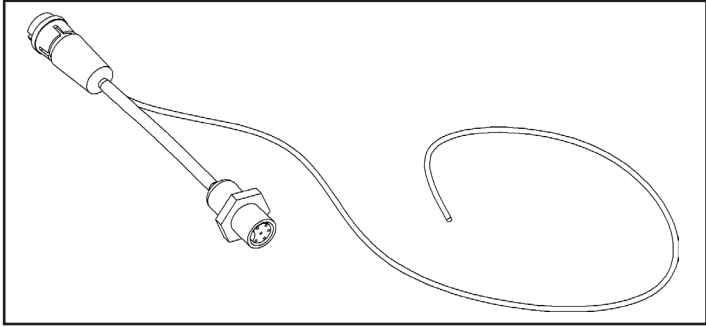
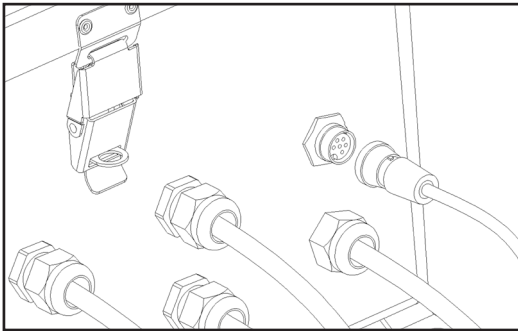
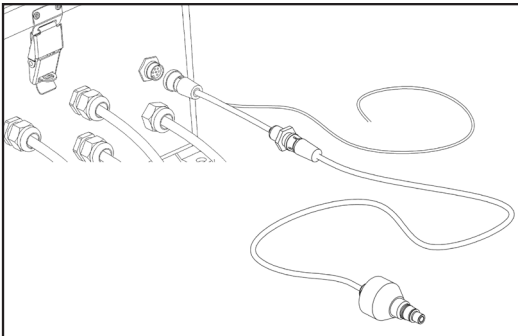

FIGURE 5A
FIGURE 5B
FIGURE 5C
6. *4-20mA output (optional)*: For those looking for the capability to transmit the UV intensity data to a remote location via a 4-20 mA signal, an optional "Y" cable is available from your dealer (Figure 5A). Please order PN 260134. This "Y" cable comes with 20 meters (65') of cable for the 4-20 mA signal. To install, first remove the existing sensor cable from the HF Enclosure (Figure 5B) and affix the new "Y" cable (Figure 5C). Next, attach the "male" end of the existing sensor cable to the "female" end of the new "Y" cable. Appropriately attach the 4-20 mA cable to the applicable equipment and ensure all connections are hand-tight.